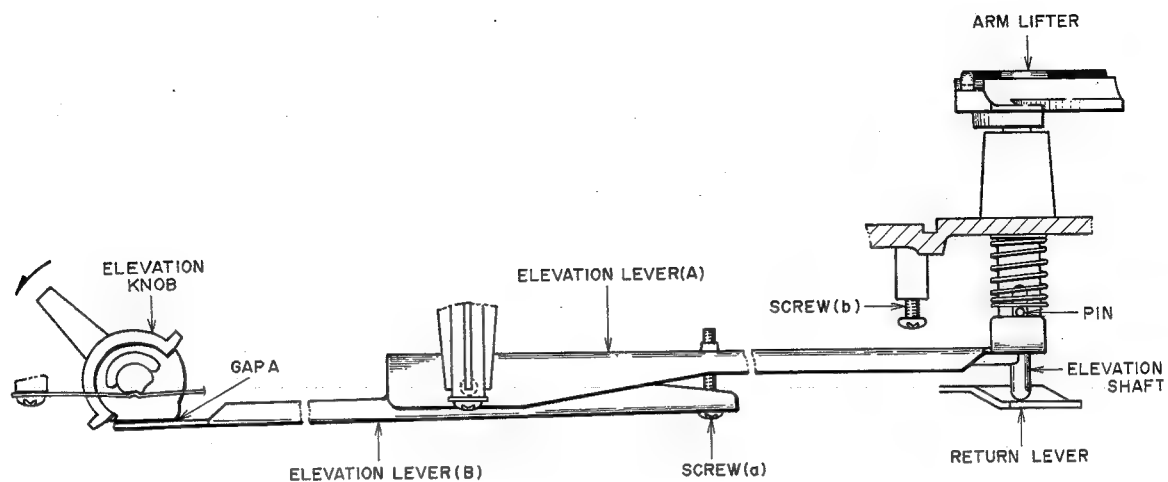

Fig. 15
1. Adjust with the elevation control and the arm lifter should be down. Confirm that the elevation shaft and lifter lever are touching. If not, press the arm lifter down with one finger until they do. Adjust screw (a) at exactly the point where the gap A between the elevation lever (B) and the elevation control disappears. (Refer to Fig. 15).